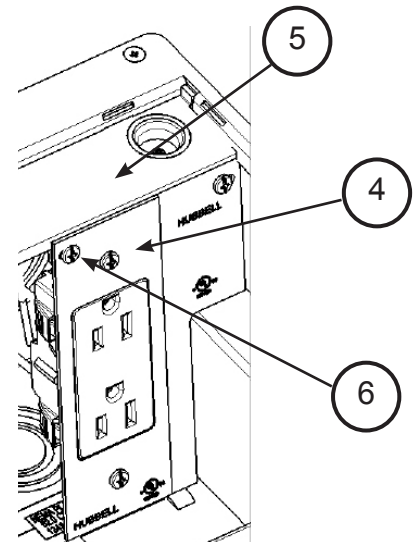

Figure 5
4. Install leaded receptacle with faceplate [4] onto Top mounting flange [5]. (See Fig. 5.)